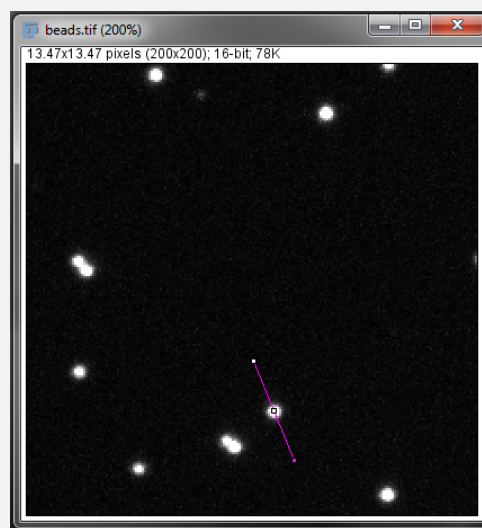

Figure 1.7: A line ROI through one of the beads.
1. Open the image beads.tif from mod1-publishing/data using [File > Open]. Duplicate the image with [Image > Duplicate...]. Choose the line selection tool and draw a line through one of the bright spheres in the image (Fig. 1.7).